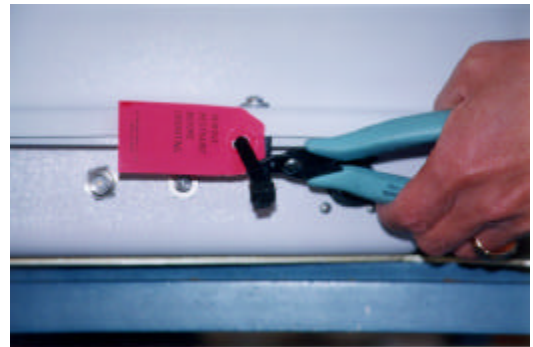

Figure 4-6
- Step 13** **IMPORTANT!** Cut and remove the shipping tie that locks the antenna in place for shipping (see Figure 4-6). Failure to remove this tie may result in damage to the antenna motors and drive electronics.